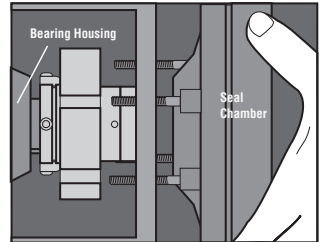

Figure 7
- 2.4 **Install the seal chamber** and bolt it in place on the bearing frame. See Figure 7.